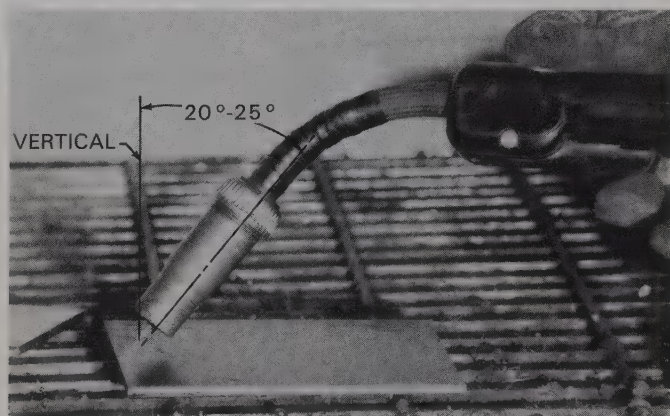
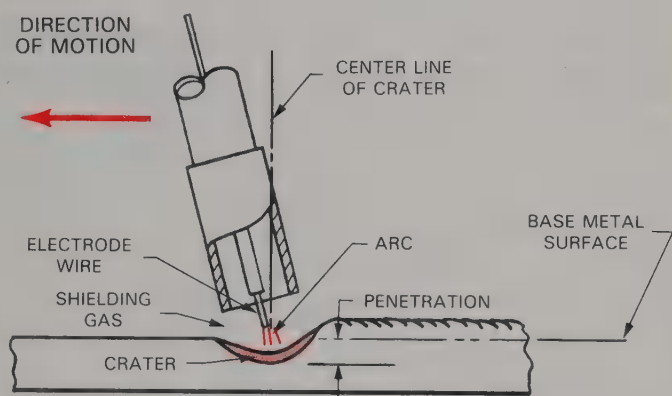

Fig. 19-7. A welder ready to strike the arc. Note that the torch is held at 20°–25° from vertical. This weld will be made in the backhand position.
Fig. 19-8. GMAW in progress. Note that the electrode wire is kept ahead of the center line of the weld crater.
position. Touch the electrode wire to the base metal, but do not press the switch. Raise the gun about 1/16" (1.6 mm) or less. Lower your helmet and press the switch. See Fig. 19-7. An arc will then form. The arc melts the base metal and forms an *arc crater* (depression). The depth of this crater is the amount of penetration of the weld. Fig. 19-8 shows these parts of the weld.
Move the welding gun in the direction of travel. Metal from the electrode will constantly be added to the pool. The weld pool shape is round to oval. A wider weld bead is obtained by moving the welding gun from side to side. The electrode should be in front of the center line of the pool. See Fig. 19-8. Continue moving the arc and pool until you reach the end of the weld. Keep the nozzle-to-work distance and the angle of the welding gun as constant as possible.
5. Use a backhand method. Fig. 19-7 shows the correct angle between the welding gun and the plate. This angle is the same for most GMAW and FCAW in any position.